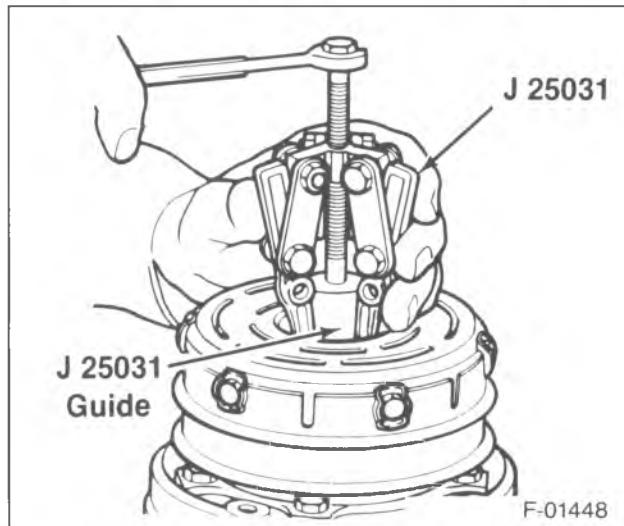

Figure 9—Removing the Clutch Rotor Assembly
- Place J 25031 down into the rotor until the puller legs engage the recessed edge of the rotor hub (figure 9).